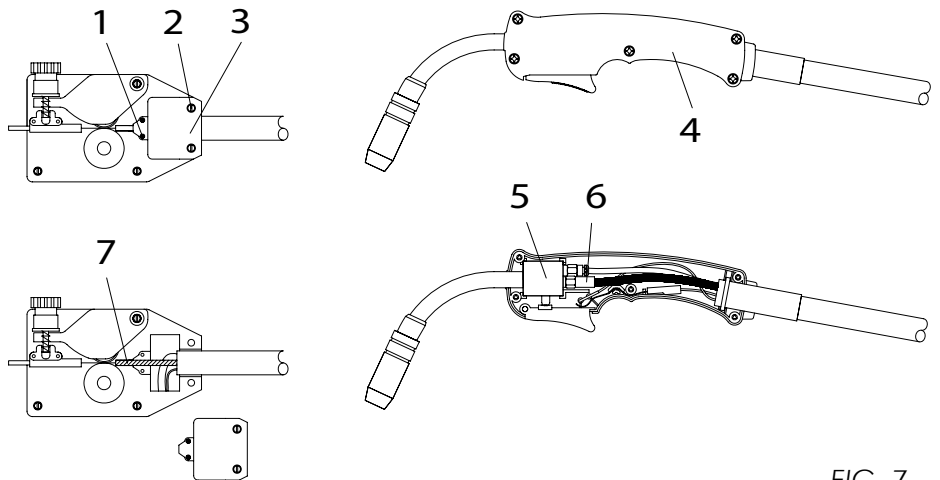

FIG. 7
**If the torch is already mounted connected and has a gas valve on the handle (Fig. 7):**
- Remove the screws (1-2) securing the torch support bracket (3).
- Hold the torch on its side, on a flat surface and carefully remove the upper cover by unscrewing the securing screws (4). Take care not to disturb the components within, so that you can take note of their exact position.
- Lift out the gas valve (5) and disconnect the liner from its quick fit coupling (7) by pushing in.
- Thread the new liner into the hose from the torch. Push the end of the liner firmly into the quick fit coupling on the gas valve (5).
- Replace the torch in the torch support bracket (3).
- Mount the upper cover (3) of the torch by fixing the screws (1-2).
- Measure the wire liner and trim it back, using a good pair of side cutters, so that there is no more of 2mm gap (7) between the end of the liner and the feed roller. Take care to ensure there are no burrs or sharp edges which may impede the progress of the wire when fitted.